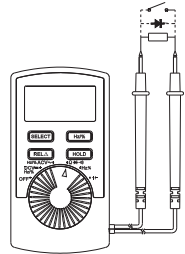

Figure 6
**5. Testing Diodes and Continuity(See Dotted Part in Figure 6)**